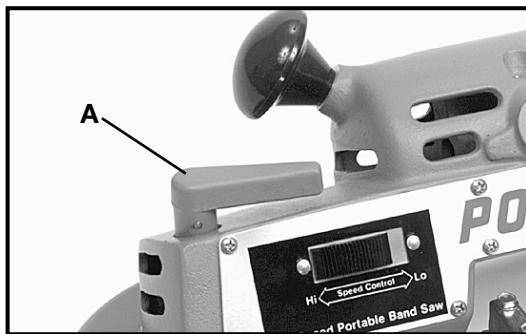

Fig. 3
To remove the blade, turn handle (A), Fig. 3, clockwise to release tension on the saw blade. Remove the blade, first from the pulleys and then from the blade guide.
Before installing a blade, clean chips and wax, which may have accumulated on blade guides and pulley tires. To install the blade, insert blade in blade guides and then position on pulleys. **NOTE: MAKE SURE TEETH ON LEFT SIDE OF MACHINE POINT TOWARD THE REAR OF THE MACHINE.** See Fig. 4 and 5. Turn handle (A), Fig. 3, counterclockwise as far as it will go. This places tension on saw blade.